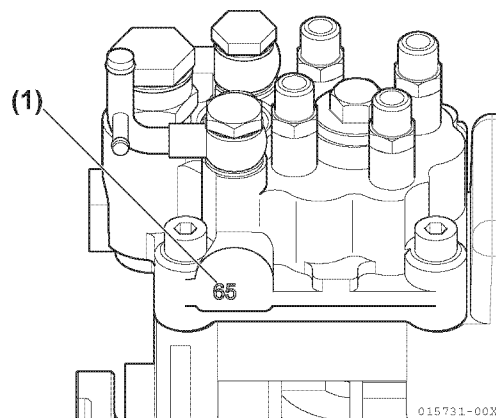

Figure 6-71
- Calculate the difference between the timing index numbers (Figure 6-71, (1)) of the fuel injection pump that you removed and the replacement fuel injection pump. See Calculation Example below.